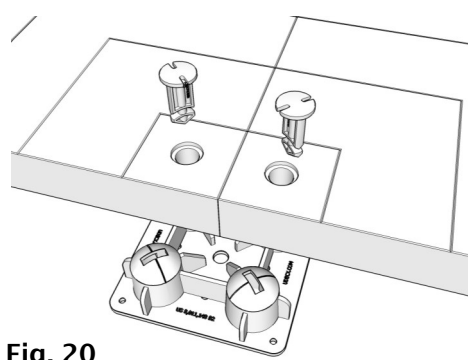
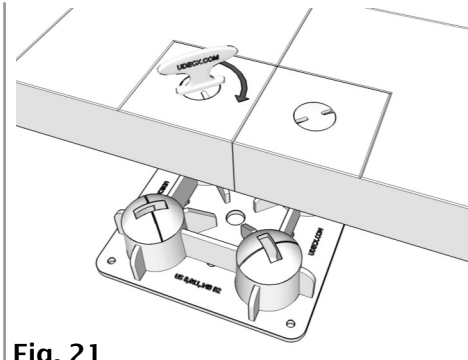

Fig. 20
Fig. 21
10. Insert 4 Cam Locks (C) into the cam ways in the Pad (B) (Fig. 20) and lock them using the Lock Tool (E). (Fig. 21)